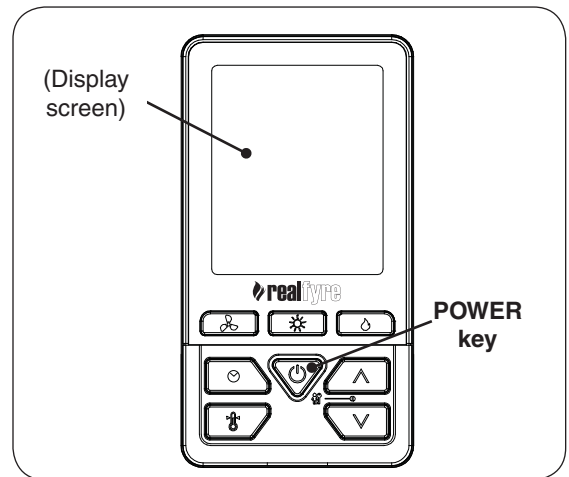

Fig. 27-1 Remote transmitter detail
1. Ensure the pilot is burning and the glass panel is re-installed. Locate the remote transmitter and press the UP or DOWN key to wake up the remote. Then press the **POWER** key (see Fig. 27-1). The system will beep twice and burner system will ignite.